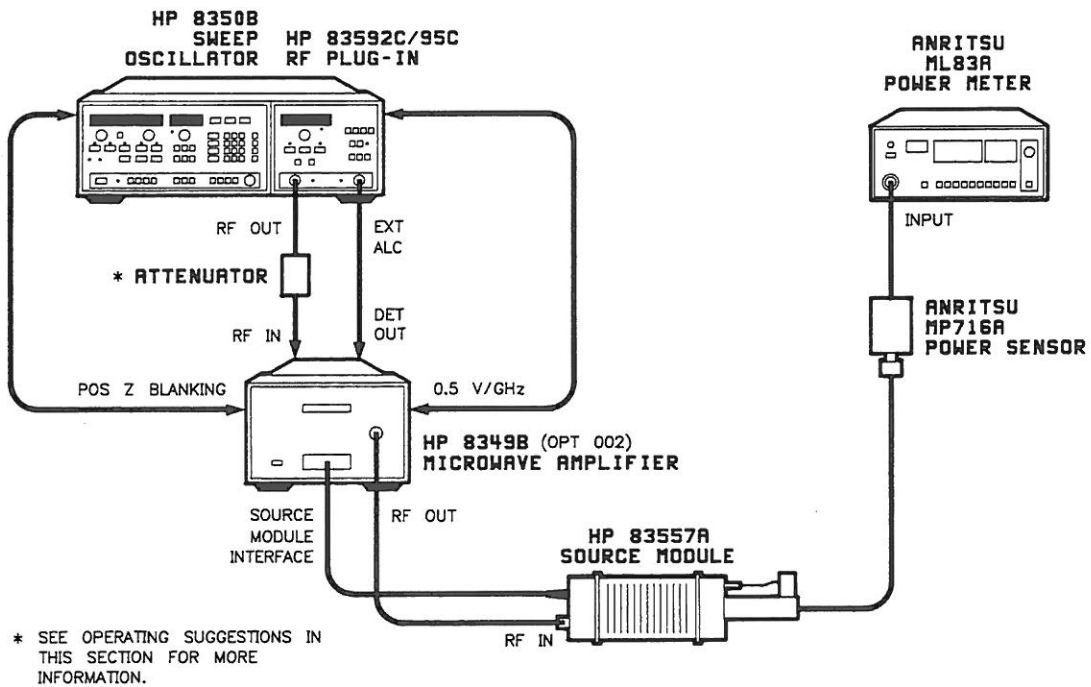

Figure 2b-4. System Configuration
1. Connect the equipment as shown in Figure 2b-4. Do not connect the power sensor to the HP 83557A output.